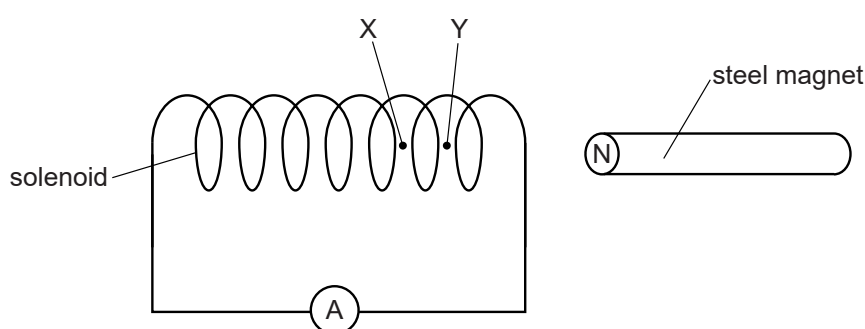

Fig. 10.1
- 1 Thin wire, covered in plastic insulation, is used to make a solenoid (long coil). The solenoid is connected to a sensitive ammeter. Fig. 10.1 shows the N-pole of a steel magnet placed next to the solenoid.
- a) In one experiment, the magnet in Fig. 10.1 is moved to the left and passes into the solenoid. The N-pole of the magnet travels from Y to X at a constant speed. As it moves, the ammeter shows a small current. Explain why there is a current in the solenoid when the magnet is moving.
(d) on Fig 10.1, mark an arrow to show the direction of current in the coil. [2]
(e) State two ways in which the equipment shown in Fig. 10.1 can be used to produce a current in the solenoid that is in the opposite direction.